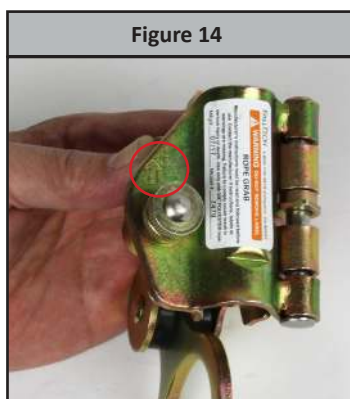

Figure 14
Step 1: Ensure the "Up" arrow is pointed up, toward the PFAS anchorage, see the arrow on the arrester on Figure 14.